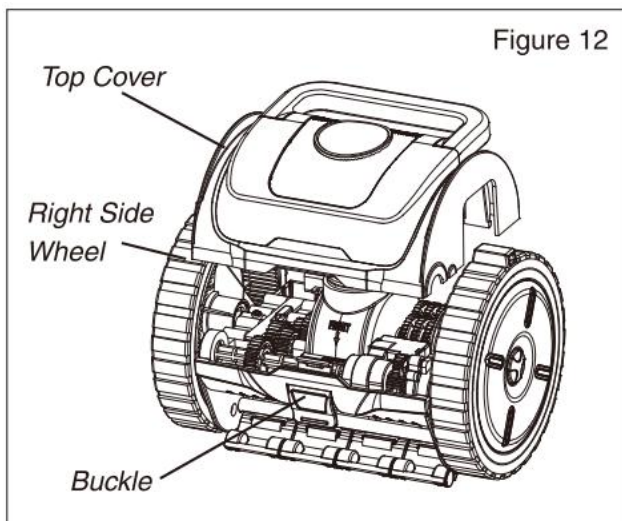

Figure 12
2. The tires are not excessively worn. See Figure 12 on the next page.
3. Place the cleaner on a flat work surface. Open the buckle on the front of the cleaner by pulling it out. Lift the front of the top cover up and then firmly pull it forward. This will separate the top cover from the cleaner body and you will now be able to lift the top cover straight up from the cleaner body (See Figure 12). Set the cover aside.